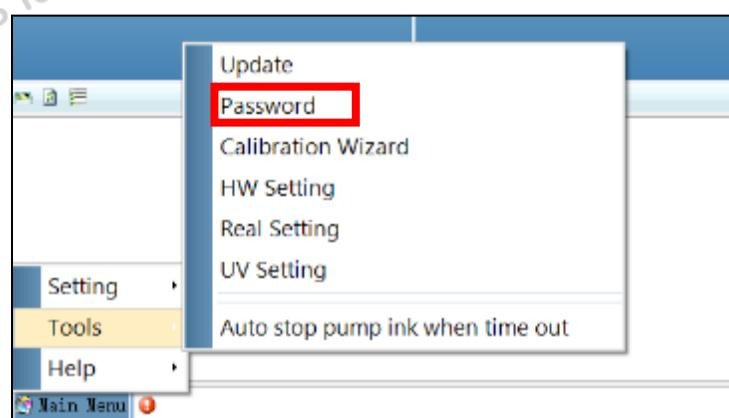

Figure 21: Password Option
- Password Screen (Refer to Fig 21)